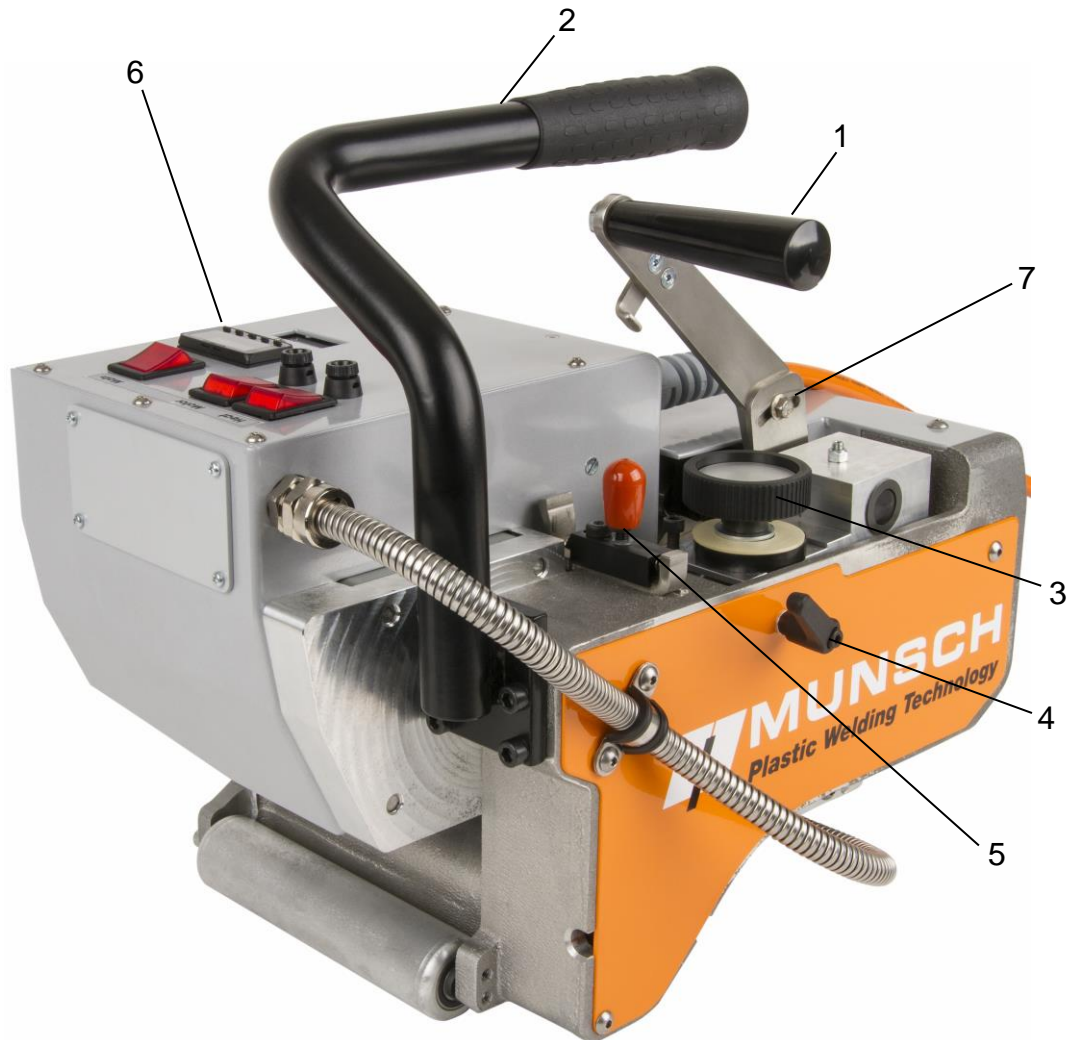
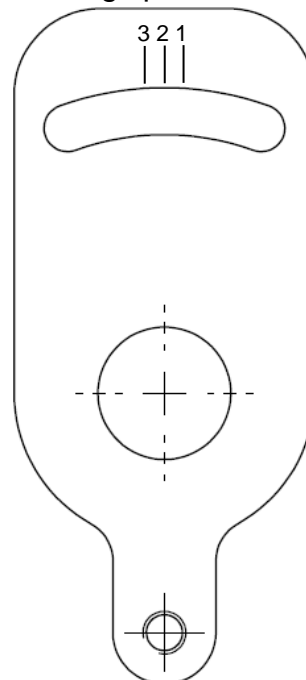

Abb. 1
fig. 5a
Please make sure, that the material does not project too much into the machine. Otherwise it would get in contact with the wedge. Now close the machine by pushing the actuating lever (pos. 1, fig. 1), until it snaps into the locking bolt. Loosen the screw on the hot wedge positioning (pos. 7). Set the desired thickness of the geomembrane according to the marks on the metal (fig. 5a). Please check, whether the 20mm stripes now can easily get inserted above and below the hot wedge (distance 2 and 3) and make sure that the wedge does not get into contact with the actuator rolls.